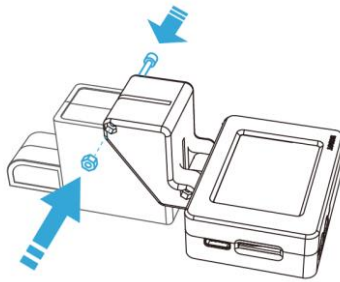

Figure 3.8 Fix AI camera
Step 3 Install the screws and fix the AI camera to the servo, as shown in Figure 3.8.